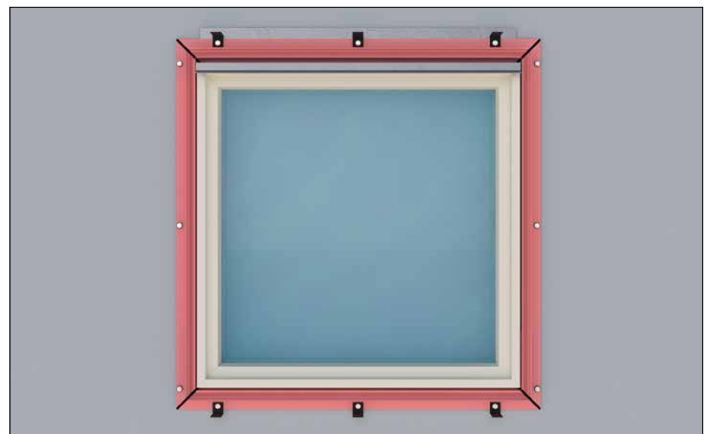

Figure 2
2. Attach P11 back plates cut to 45° around the window. For the P11 sill and head of window, add P30 plank backer 2" from ends and 16" centre (Figure 2).